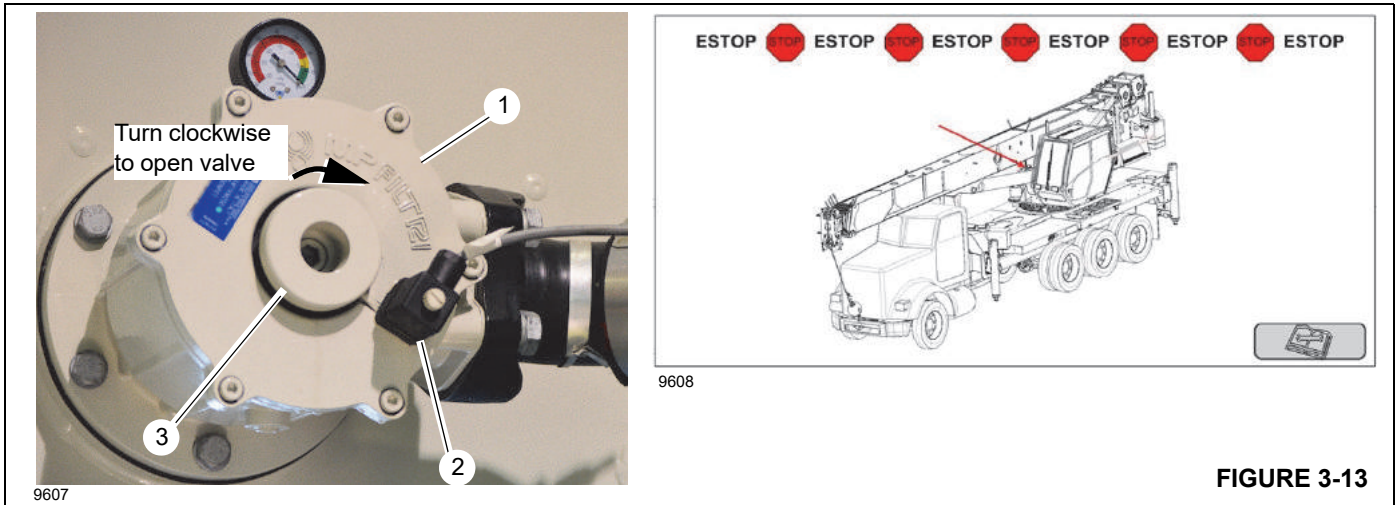

FIGURE 3-13
The hydraulic suction pump (1, Figure 3-13) is located on the front of the hydraulic tank. The pump features a safety switch (2) that determines if the shut-off valve is open or shut. The valve must be fully open to start and operate the crane. When the valve is closed, the crane will not start. This safety switch ensures that there is hydraulic fluid available when running the crane. For more information about the control states, see "Crane Ignition and Control States" on page 3-3.
When the suction valve is closed, the ESTOP warning screen appears in the RCL (Figure 3-13). The ESTOP screen persists until the suction valve is fully open.